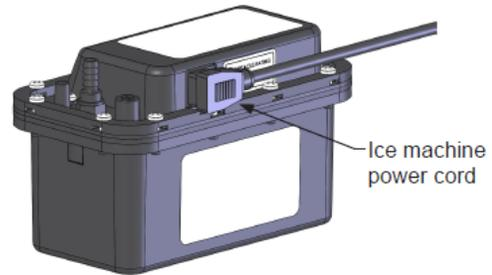

Figure 37
5. Disconnect the ice machine power cord from the drain pump (See Figure 37).